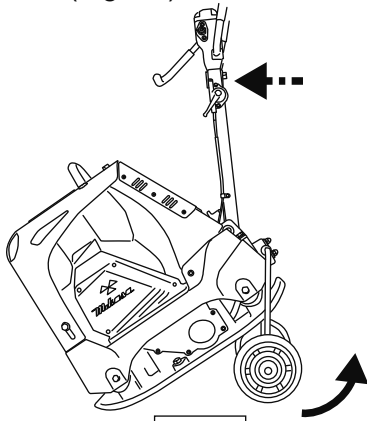

Fig.32
- 1 Position the machine so that the front end of vibrating plate touches the ground. Then, tilt the handle to the front until the cart leaves the ground. (Fig. 32)